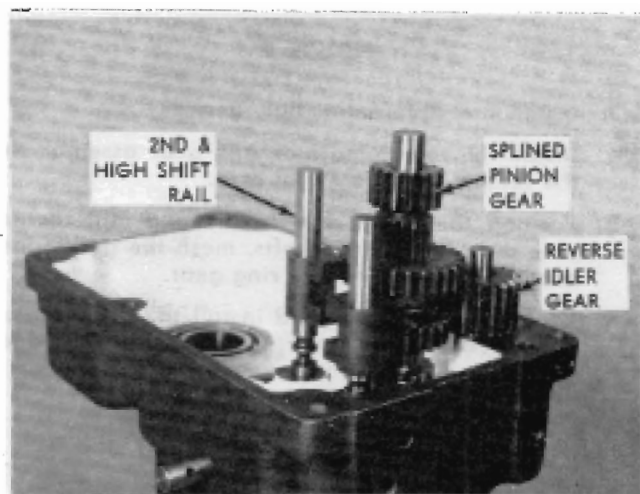

FIGURE 16
16. Install the reverse idler gear shaft and gear assembly making sure the shoulder of the gear goes down. Figure 16.